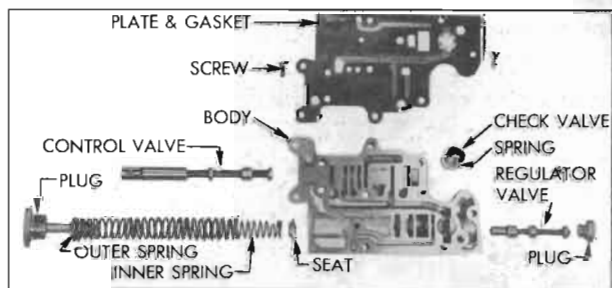

Figure 4-103—Valve Body Disassembled
3. Remove the large pressure regulator valve plug from valve body, using care because of the heavy spring pressure behind the plug. Remove the two springs and spring seat. See figure 4-103.
1. Place front pump delivery check valve spring in body with large end down and place check valve on spring with ridged side up. See figure 4-103.